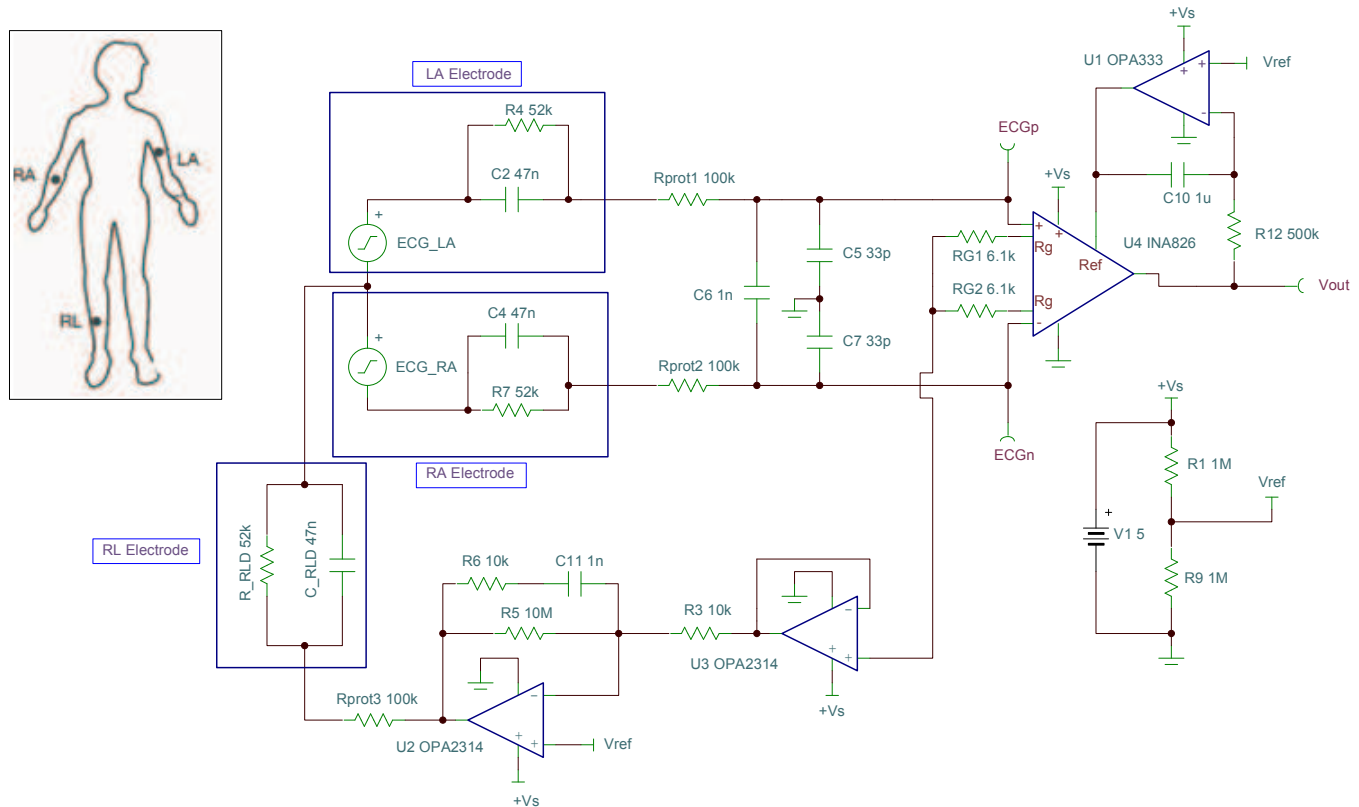

Figure 67. ECG Circuit
Figure 67 is an example of a LEAD I ECG circuit. The input signals come from leads attached to the right arm (RA) and left arm (LA). These signals are simulated with the circuitry in the corresponding boxes. Protection resistors ($R_{\text{PROT}1}$ and $R_{\text{PROT}2}$) and filtering are also provided. The OPA333 is used as an integrator to remove the gained-up dc offsets and servo the INA826 outputs to V_{REF} . Finally, the right leg drive is biased to a potential ($+V_S/2$) and it inverts and amplifies the average common-mode signal back into the patient's right leg. This architecture reduces the 50-/60-Hz noise pickup. Click the following link to download the TINA-TI file: ECG Circuit.